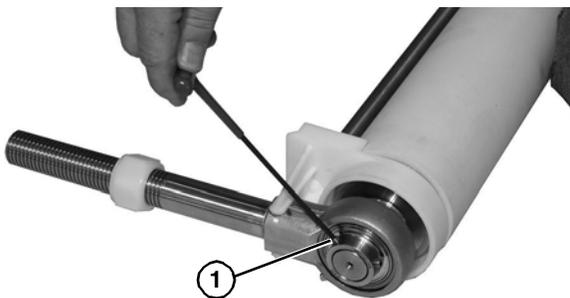

Figure 72
4. Use a 4 mm hex wrench (**Figure 72, item 1**) to loosen the bearing shaft assembly fasteners (**Figure 72, item 2**).